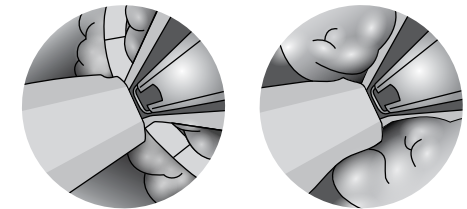

Figure 5
- Position the Delivery Device such that the keyhole (**Figure 5**) is against the target prostatic lobe in the lateral direction.